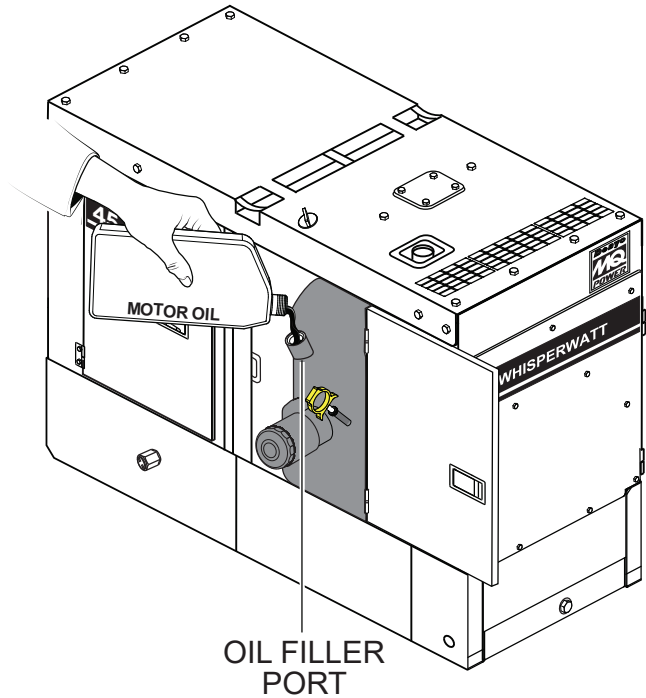

Figure 29. Engine Oil Filler Port
5. If the engine oil level is low (Figure 28C), remove the oil filler cap (Figure 29) and fill to a safe operating level (max) as indicated by the dipstick (Figure 28A).